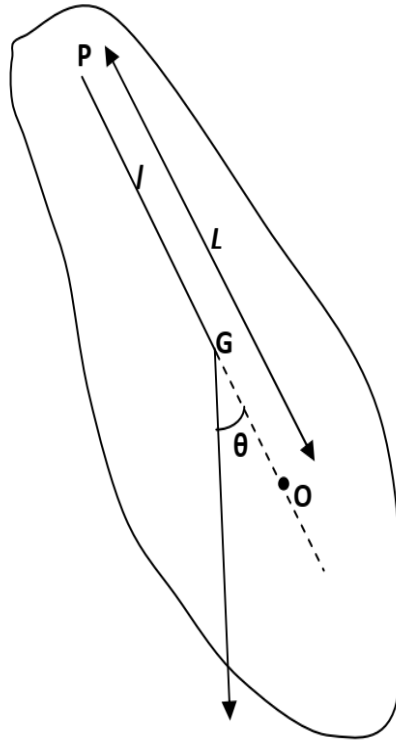

Figure-1
suspended body are not negligible in comparison with the distance from the axis of suspension to the center of gravity, the pendulum is called a compound, or physical, pendulum. A rigid body mounted upon a horizontal axis so as to vibrate under the force of gravity is a compound pendulum. Compound pendulum is a rigid body of any shape free to turn about a horizontal axis. In Figure-1, G is the center of gravity of the pendulum of mass M, which performs oscillations about a horizontal axis through O.
This is the length of “equivalent simple pendulum”. If all the mass of the body were concentrated at a point O (See Figure-1) such that $OP = \frac{k^2}{l} + l$, we would have a simple pendulum with the same time period. The point O is called the ‘Centre of Oscillation’. Now from Eq. (9)
Thus both l_1 and l_2 are positive. This means that on one side of C.G there are two positions of the center of suspension about which the time periods are the same. Similarly, there will be a pair of positions of the center of suspension on the other side of the C.G about which the time periods will be the same. Thus there are four positions of the centers of suspension, two on either side of the C.G, about which the time periods of the pendulum would be the same. The distance between two such positions of the centers of suspension, asymmetrically located on either side of C.G, is the length L of the simple equivalent pendulum. Thus, if the body was supported on a parallel axis through the point O (see Figure-1), it would oscillate with the same time period T as when supported at P. Now it is evident that on either side of G, there are infinite numbers of such pair of points satisfying Eq. (11). If the body is supported by an axis through G, the time period of oscillation would be infinite. From any other axis in the body the time period is given by Eq. (7). From Equation (8) and (11), the value of g and K are given by